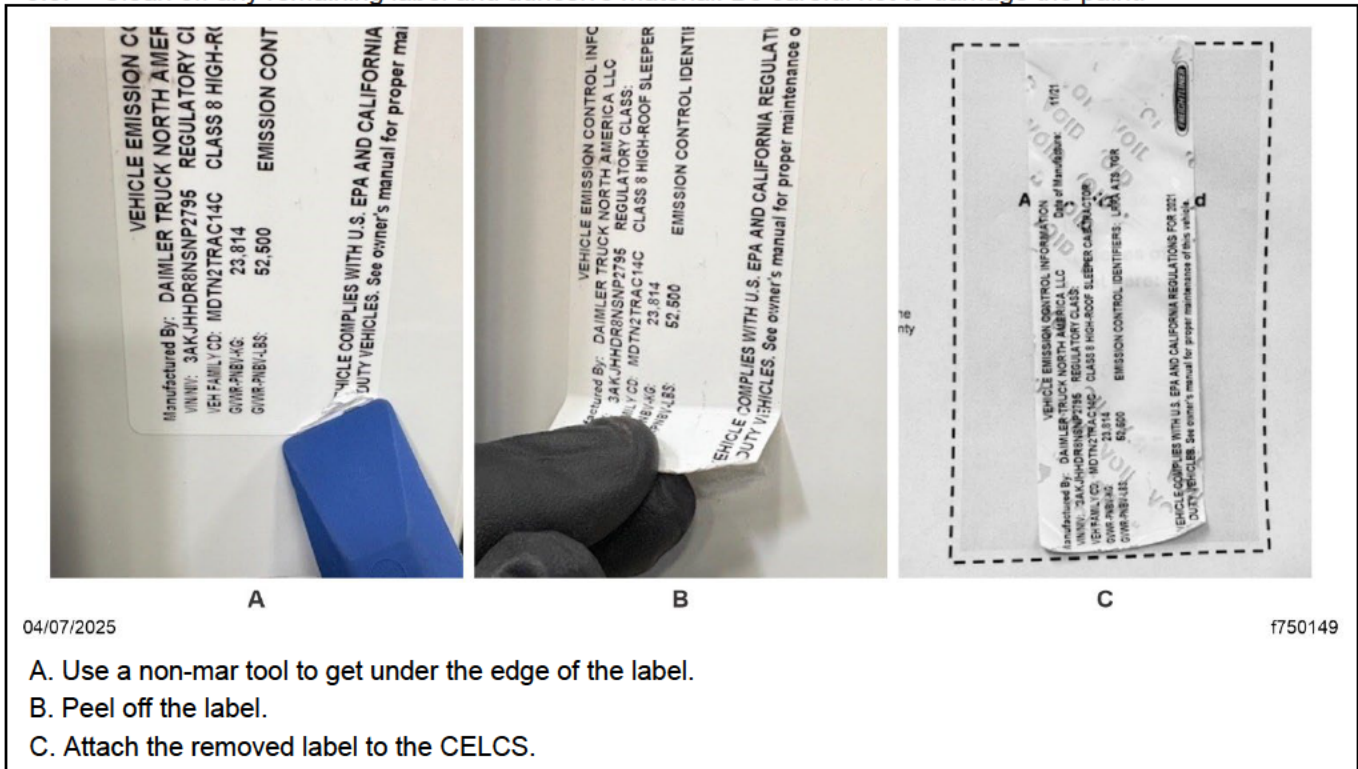

Fig. 3, Removing the Label and Attaching it to the CELCS
- Once the label is warm, use a non-mar tool to get under the edge. See Fig. 3.